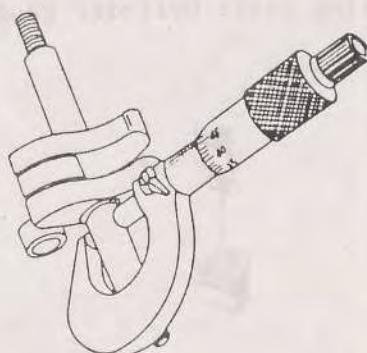

Fig. 9
- (5) Clearance between crankshaft and main bearings (Fig. 9)